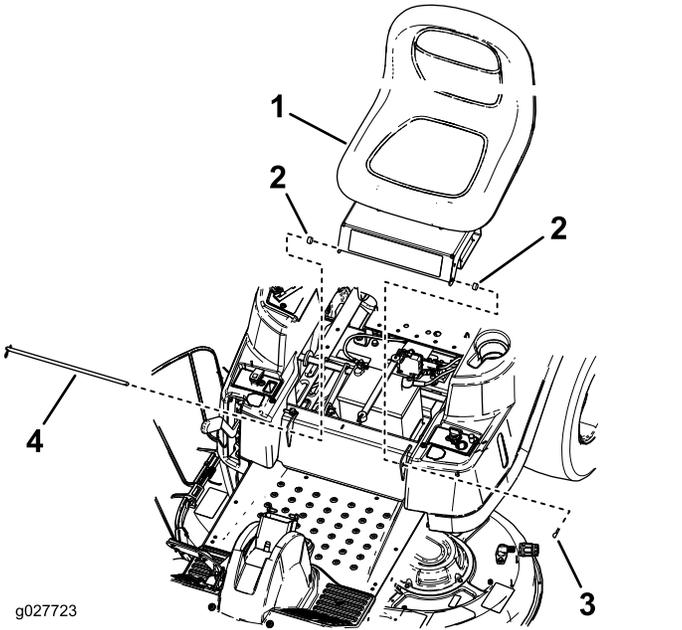

Figure 6
1. Install the seat assembly to the frame with the seat rod, 2 hairpin cotter pins, and 2 spacers (certain models only) as shown in Figure 6.